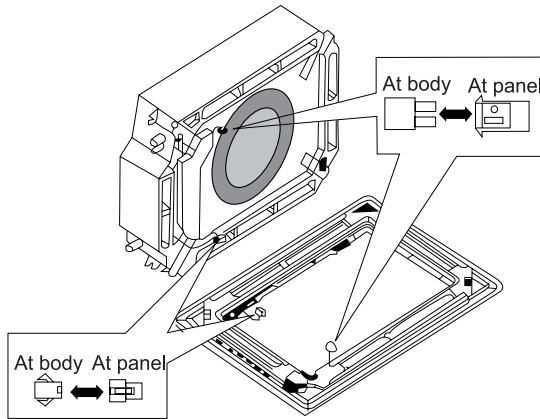

Fig. 4.34
(4). Wire the swing flap motor as shown in Fig. 4.34.